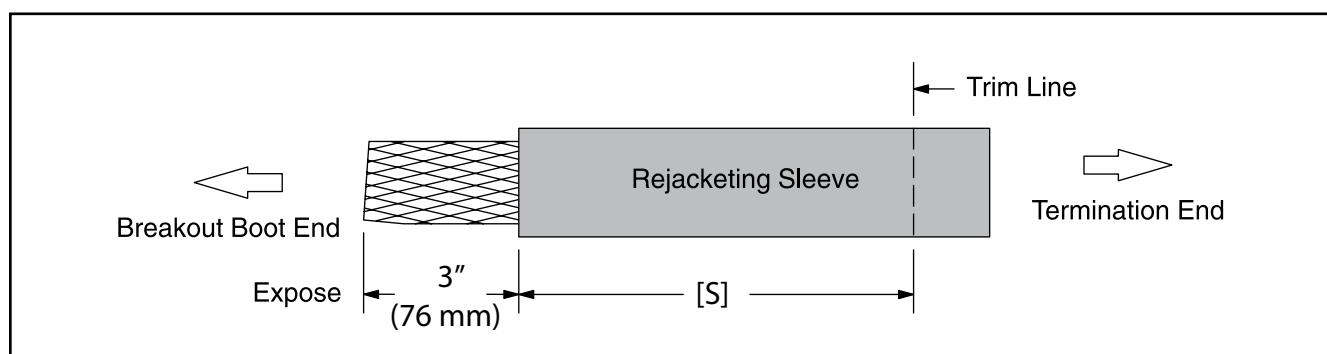

Figure 6
3.4 Using scissors, trim rejacketing sleeve assembly to length required (Figure 6). Cut tubing and inner braid together.